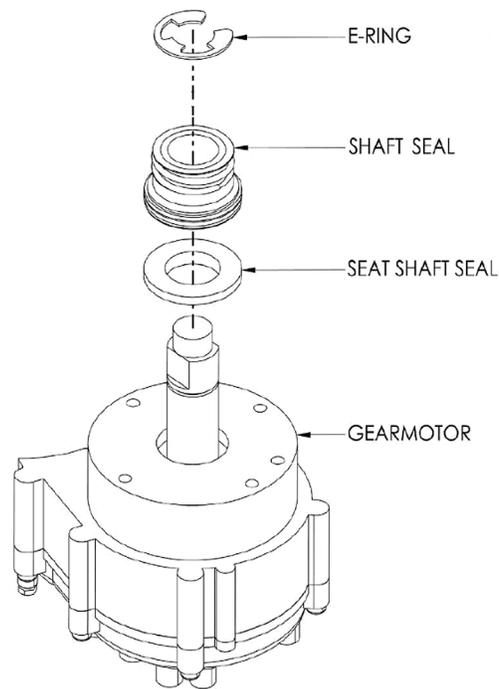

Figure 12. IMD315 Shaft Seal
2. Problems in the gear motor electrical circuit. See Figure 12.